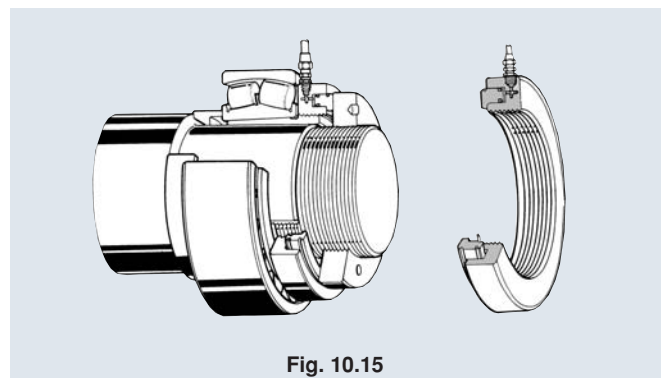

Fig. 10.15
- (7) If it is difficult to tighten a large bearing by manual force, use a hydraulic nut or ram for easier assembly. (See **Fig. 10.15**.)